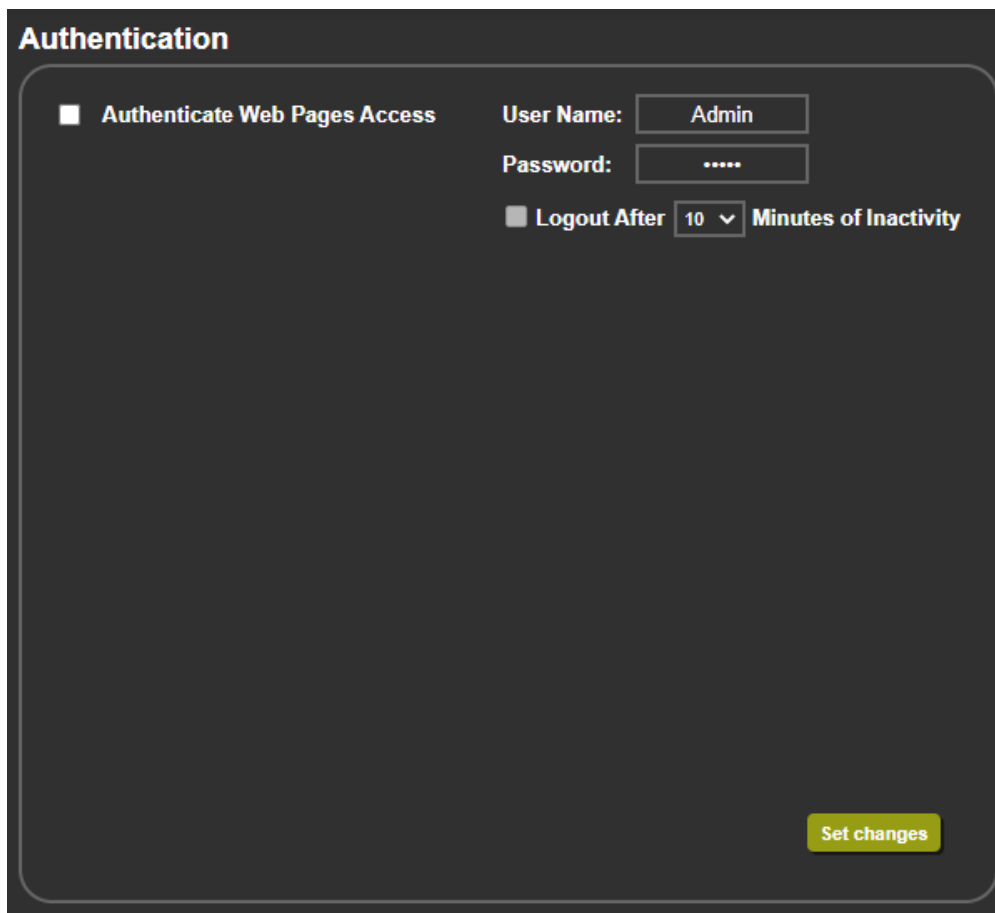

Figure 42: Authentication Page
1. In the Navigation pane, click **Authentication**. The Authentication page appears. \(Figure 42\).